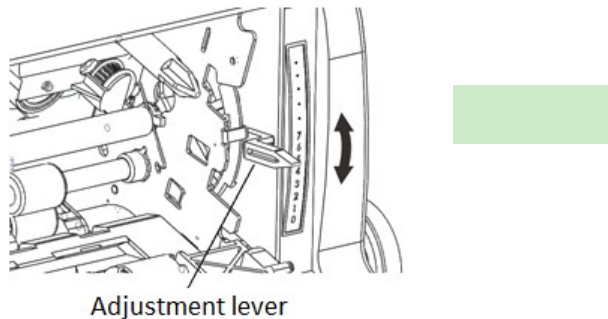

Fig. 2-6
- 3) Adjust the position of adjustment lever according to the thickness of paper before feeding as Fig. 2-6. The adjustment method is shown in this Chapter 2-4.